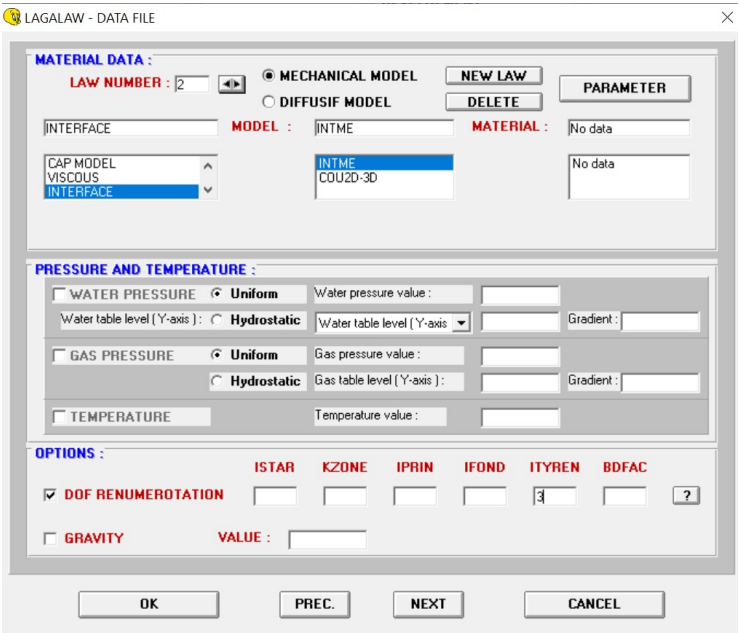

Figure 9.7 Speed up simulation
3. One bonus setting is that: check box **DOF RENUMBEROTATION** and set **ITYREN** as 3 (others just left blank), shown in Fig. 9.7. In this way it can speed up the simulation by renumbering the metric components.